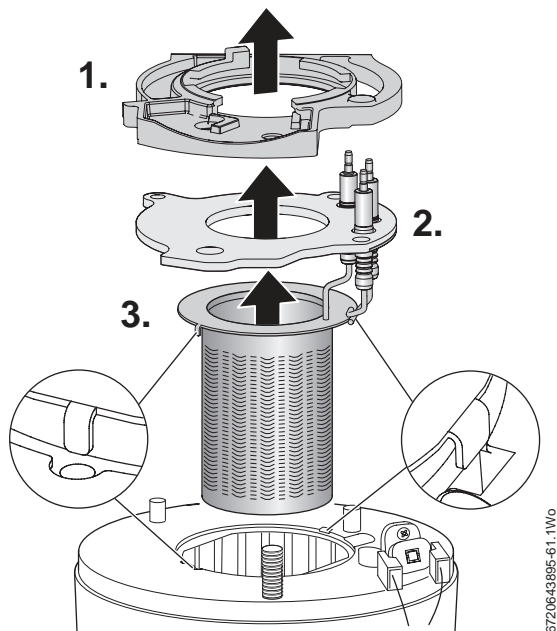

Fig. 80 Burner removal
Refer to figure 80
- ▶ Re-assemble ensuring that the lower baffle (2) and the top baffle (1) are refitted correctly.
- ▶ Refer to figure 80 when re-fitting the burner to ensure that it fits centrally within the heat exchanger and location tabs are situated in location holes.